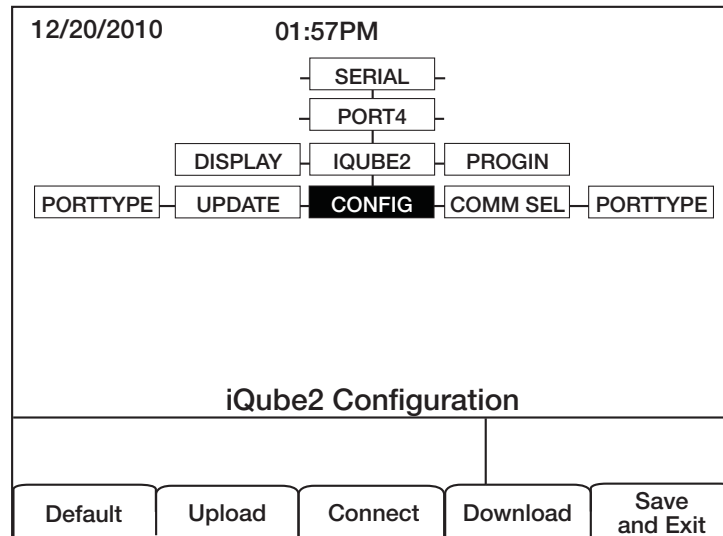

Figure 2. CONFIG Menu
- Navigate to the **CONFIG** menu and press the **Connect** softkey (see Figure 2).